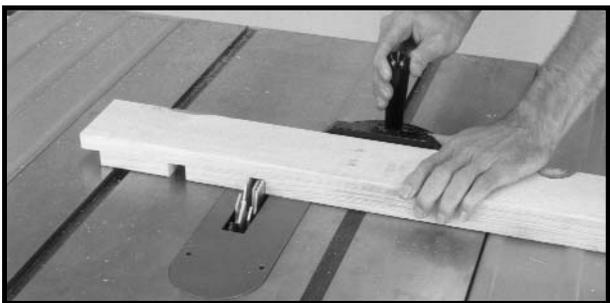

Fig. 52
3. Fig. 52, shows a typical dado operation using the miter gage as a guide.